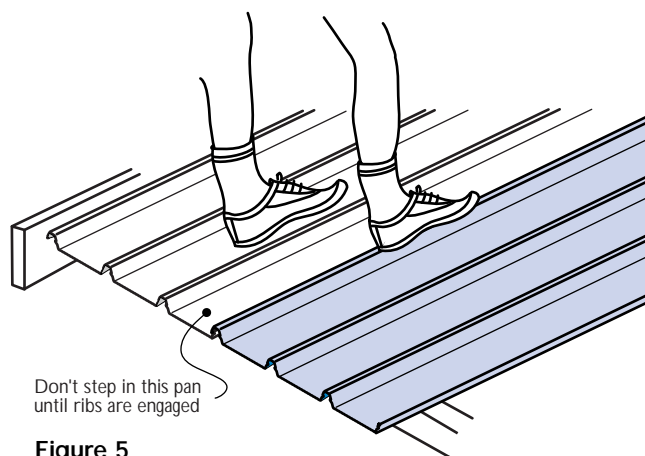

Figure 5
- 9 Position the first sheet so that it overhangs the desired amount (usually 50mm) to the gutter. It is important to ensure this first sheet is placed square to adjacent edges. (Figure 5.)
- 10 Engage the sheet with clips using vertical foot pressure on all the ribs over each clip. (Figure 5)
- 14 Fully engage the two sheets along the overlapping rib. You can do this by walking along the full length of the sheet with one foot in the centre pan of the previous sheet and the other foot applying vertical pressure to the top of the interlocking ribs at regular intervals. It is important that you don't walk in the unsupported pan beside the overlap (Figure 5)